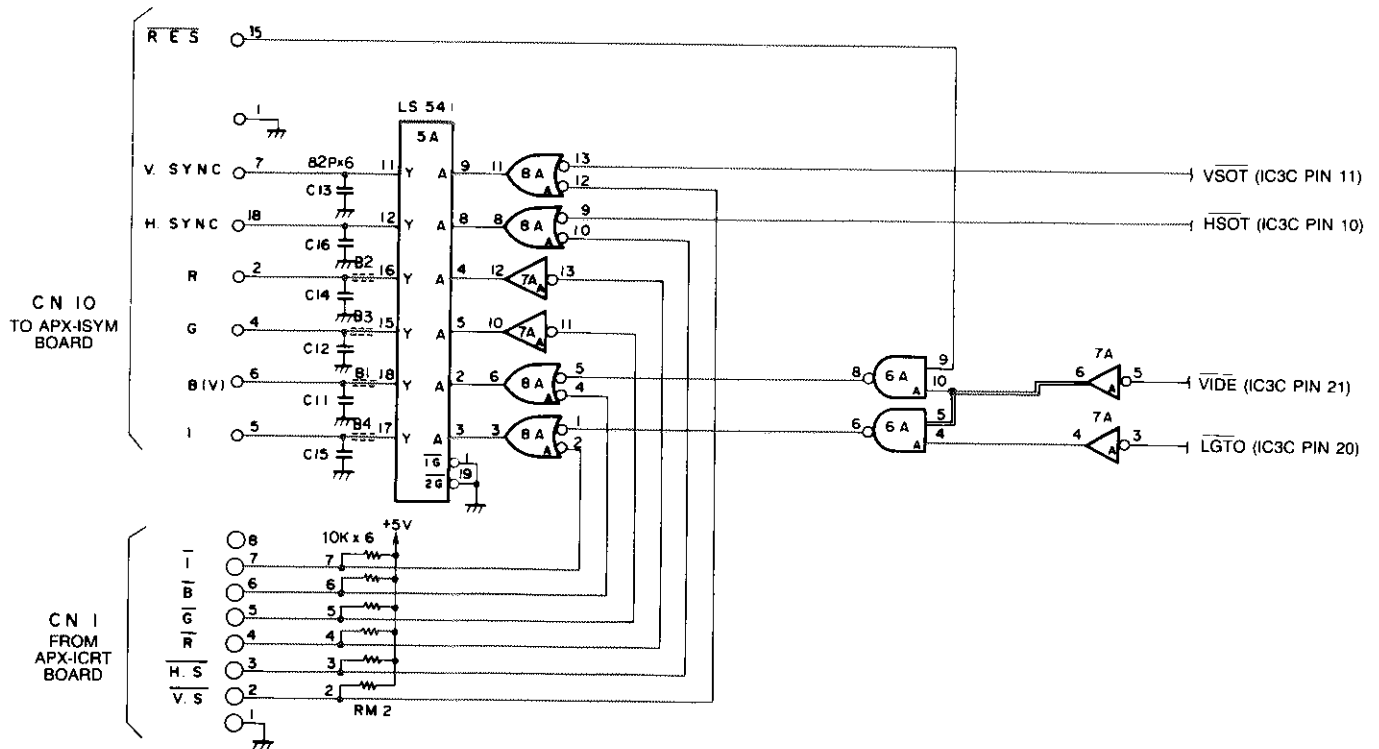

FIGURE 2-82. APX-IGGS VIDEO OUTPUT CIRCUIT
2.4.7 APX-IGGS Output Circuit (Figure 2-82)